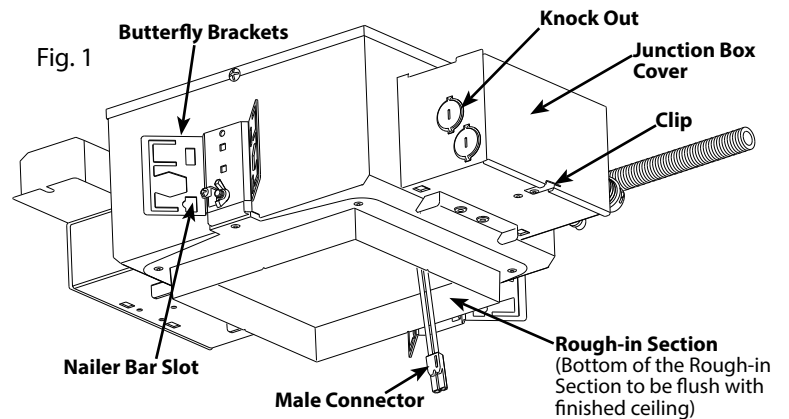

Fig. 2
4. The fixture can be adjusted to different heights above the ceiling surface. For height adjustment, loosen the **Wing Nut** and slide the **Butterfly Bracket**. If necessary remove the **Wing Nut** and insert in screw in different hole provided on the **Butterfly Bracket**. (Fig: 2)